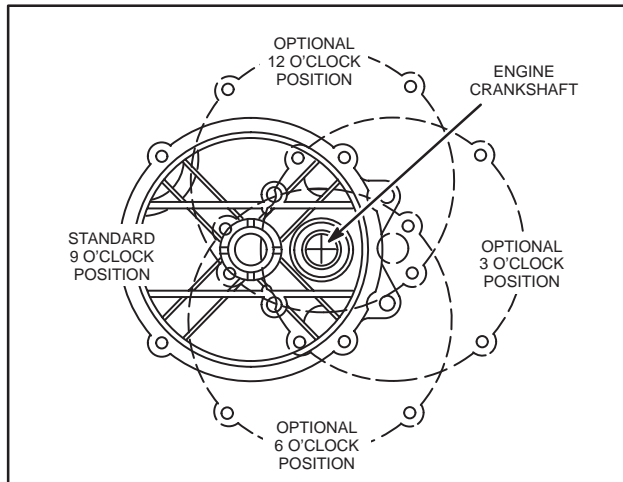

Fig. 133 – POSITIONING BEARING HOUSING ASSEMBLY
**NOTE:** The housing must be installed in the same position as when removed, Fig. 133.